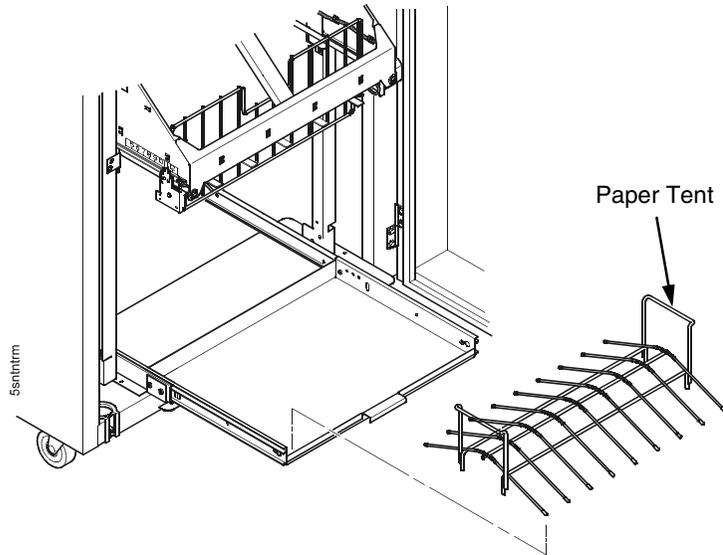

Figure 70. Removing the Paper Tent
4. Remove the paper tent. (Figure 70.)